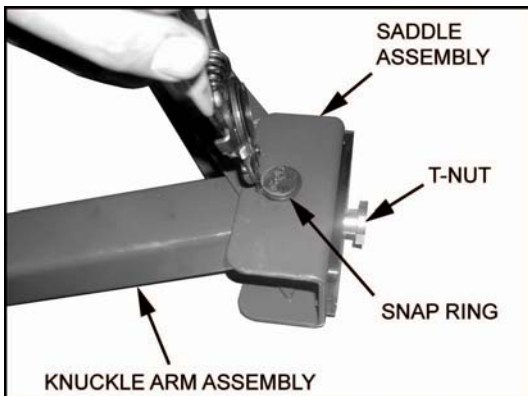

FIGURE 3-38
1. Refer to **Figures 3-38 and 3-39**. Remove snap ring then remove knuckle actuator pivot pin.